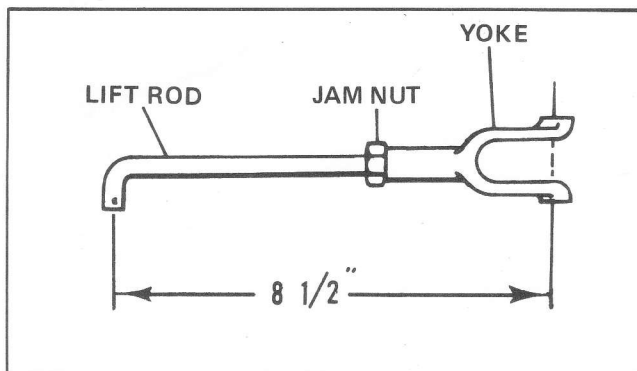

Figure 1. Lift Rod and Yoke Assembly
See Figures 1 and 2 to identify kit components.
2. Assemble lift rod (D), jam nut (F) and yoke end (G), as shown in Figure 1. Adjust yoke to obtain a 8-1/2 inch dimension between center of pin hole in yoke and center of the opposite end of lift rod.